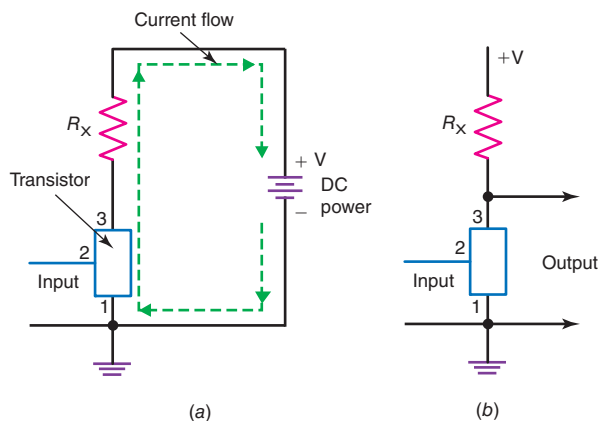

Figure 31-1 Basic circuit for most transistor applications.
- In Fig. 31-1, the main path for current flow is between terminals